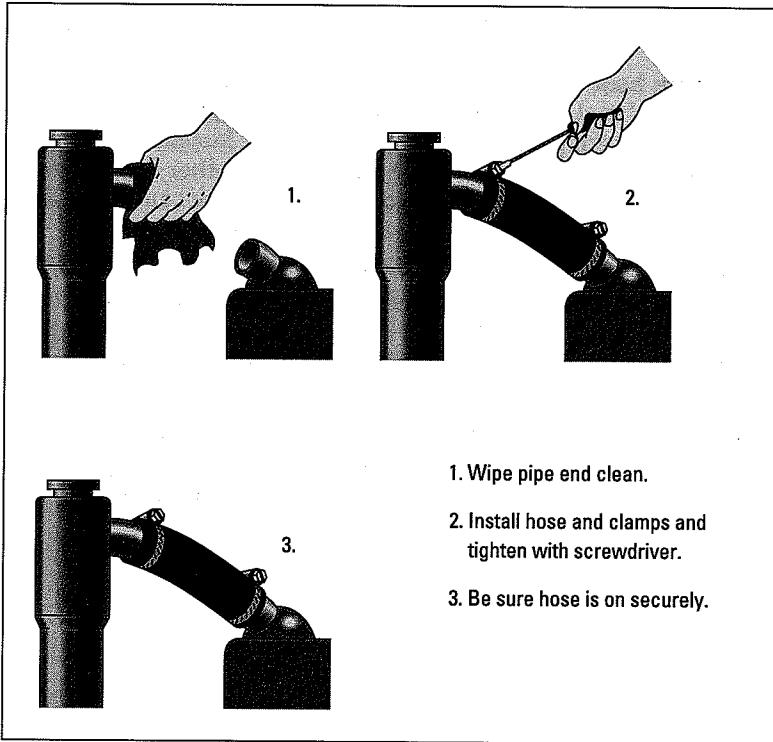

Figure 14-9:
The basic process of changing a hose is quite simple (see Figure 14-9), but there are differences depending on the type of hose you're replacing:
5. **Clean the fittings that the new hose will attach to and install new clamps over the hose (refer to Figure 14-9).**